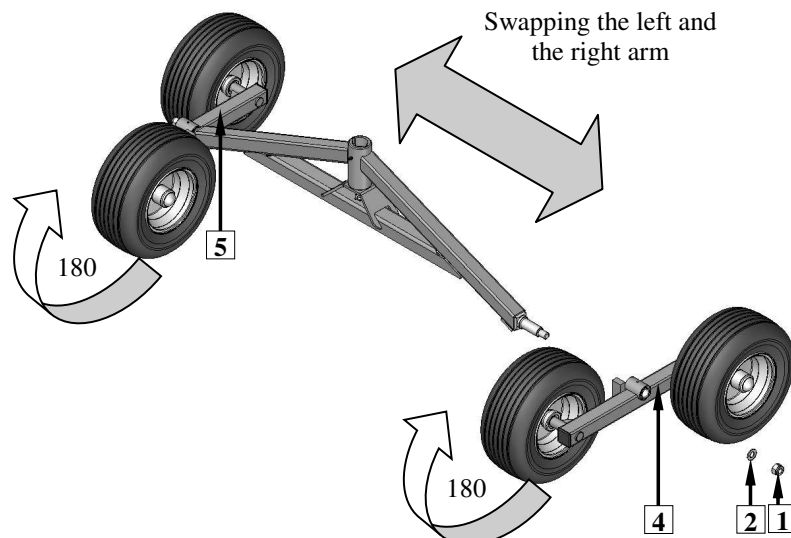

Fig. 23. Increasing working width by means of wheel trolley
- ❑ for peat meadows it is possible to increase the distance of tines from the ground by shifting arms of wheels' trolley. Unscrew the nut (1) and take off washer (2), pull out front arm (3), and rotate it 180°. Rotate left (4) and right arm (5) 180° and swap them (Fig. 23),